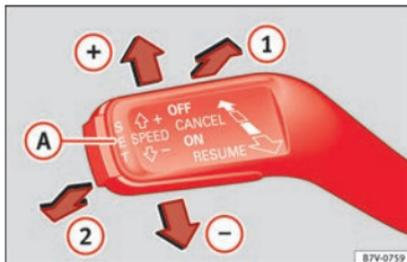

Fig. 47 On the left of the steering column: switches and controls for operating the CCS
- Switching on the CCS: move the lever to **ON** **1** »» **Fig. 47**. The system switches on but it does not control the speed as no speed has been programmed.
- Activating the CCS: press the **SET** **A** »» **Fig. 47** button. It memorises and maintains the current speed.
- Temporarily switching off the CCS: move the lever to **CANCEL** **2** »» **Fig. 47** and release it or press the brake or clutch pedal. The cruise control system is switched off temporarily.
- Reactivating the CCS: move the lever to **RESUME** **3** »» **Fig. 47** and release it. The memorised speed is saved and controlled again.
- Switching off the CCS: move the lever to position **OFF** **2** »» **Fig. 47**. The system is disconnected and the memorised speed is deleted.